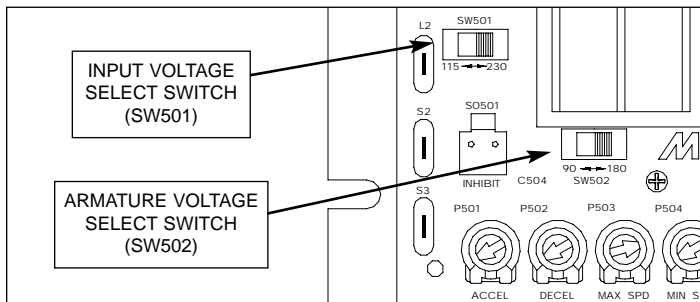

Figure 6. Voltage Switches
- Set voltage switch SW501 to either 115V or 230V to match the AC line voltage. Set voltage switch SW502 to either 90V or 180V to match the maximum armature voltage (see Figure 6).